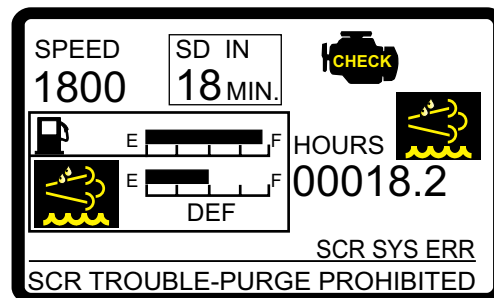

Figure 90. Escape Mode Timer
- The **Escape Mode Timer** (Figure 90) will appear on the **main** screen. This timer displays the remaining Escape Mode operation time.